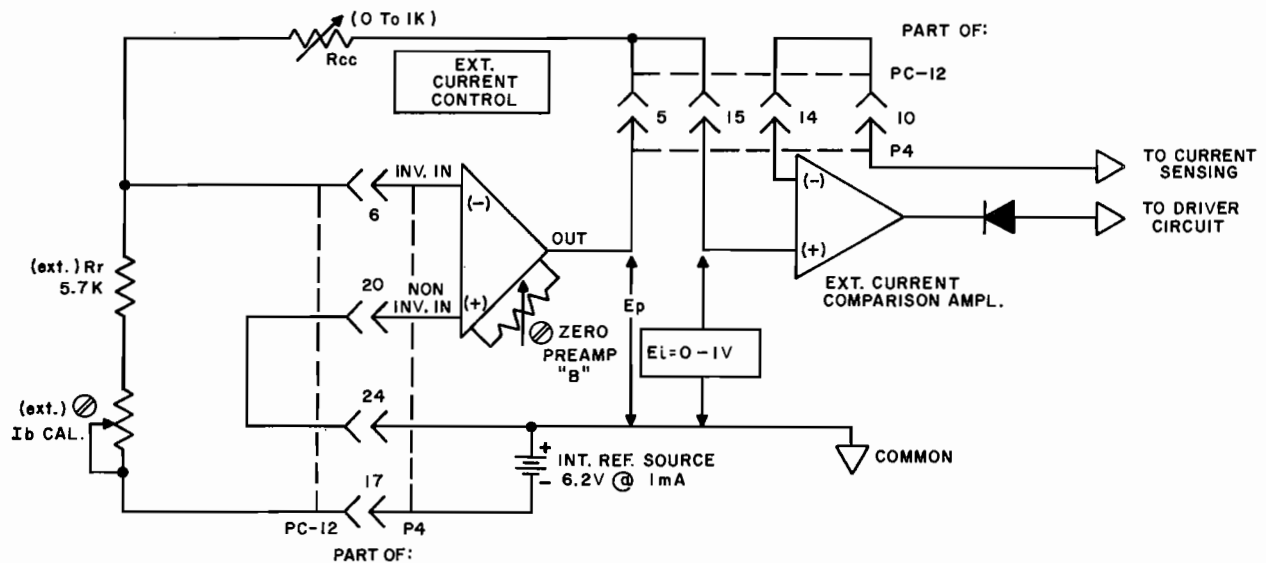

FIG. 3-12 TWO-TERMINAL RESISTANCE PROGRAMMING OF THE CURRENT CHANNEL USING THE PREAMPL AND THE INTERNAL REFERENCE SOURCE.
- 3-66 (Refer to FIG. 3-12). The preamplifier functions here in the inverting configuration, producing its output voltage (E_p , which is made equal to the required voltage " E_i ") according to the equation: